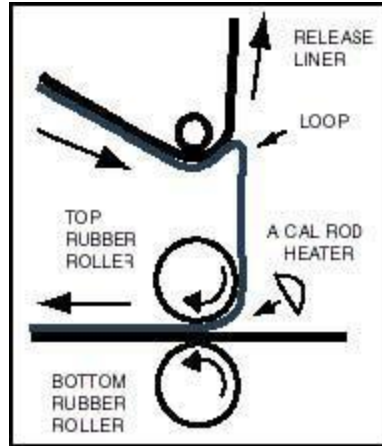

Figure 3
3. Adjust the tension to create a small loop as shown in Figure 3. This loop may occasionally disappear and reappear.